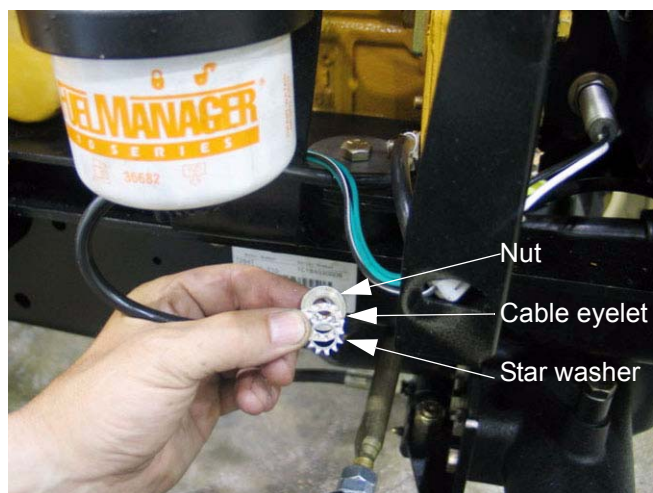

Figure 2.5
2.5. Of the four bolts, the one at the right front corner of the engine also holds the negative battery cable. The cable will come off when the nut is removed, and there is a star-type lock-washer between the cable eyelet and the frame to ensure good electrical contact. See Figure 2.5.